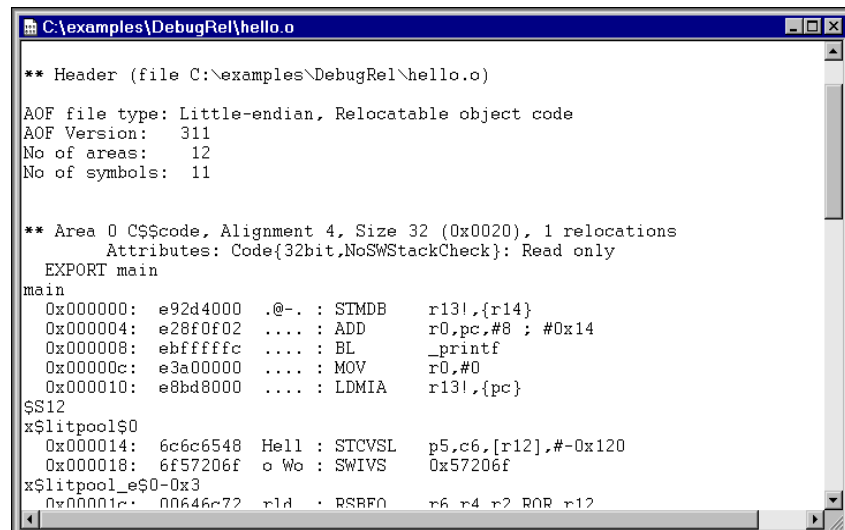

Figure 2-19 View window
4. Click **OK**. The information is displayed in the specified format in a View window (Figure 2-19).